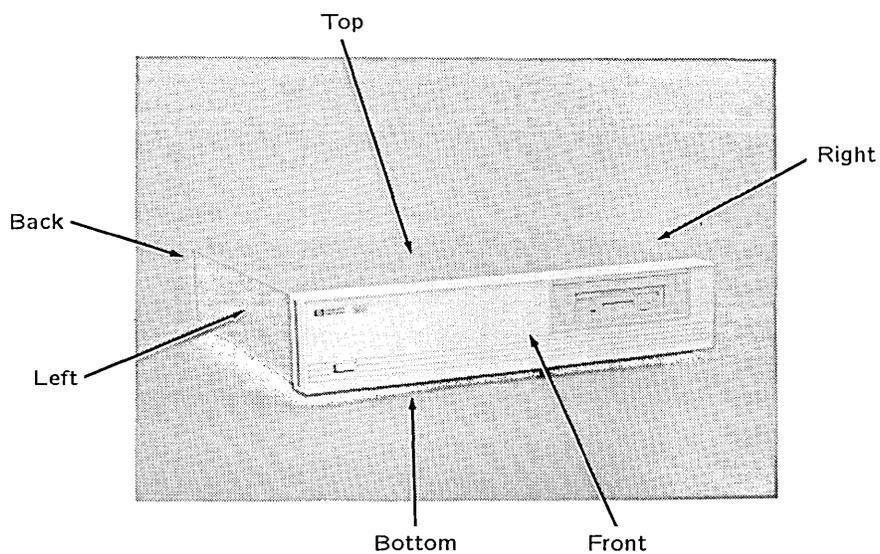

Figure 2-1. Controller Hardware Orientation
- ▣ Hardware orientation shown in Figure 2-1.